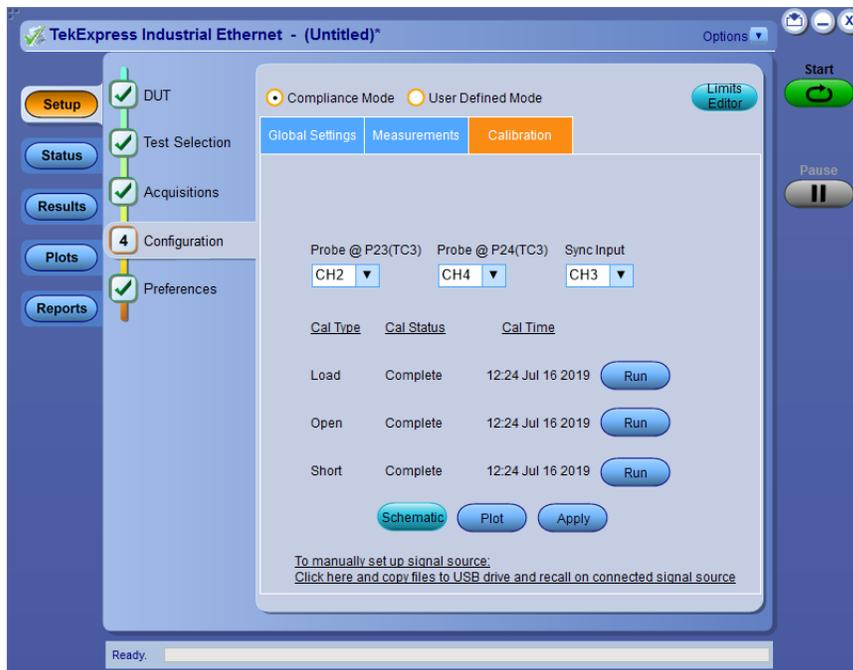

Figure 36: Return loss Calibration
5. Run all the three calibrations one after another, with appropriate connections to the calibration board – a) Load Calibration b) Open Calibration and C) short Calibration. The application screen for calibration is show in Figure 36: Return loss Calibration.